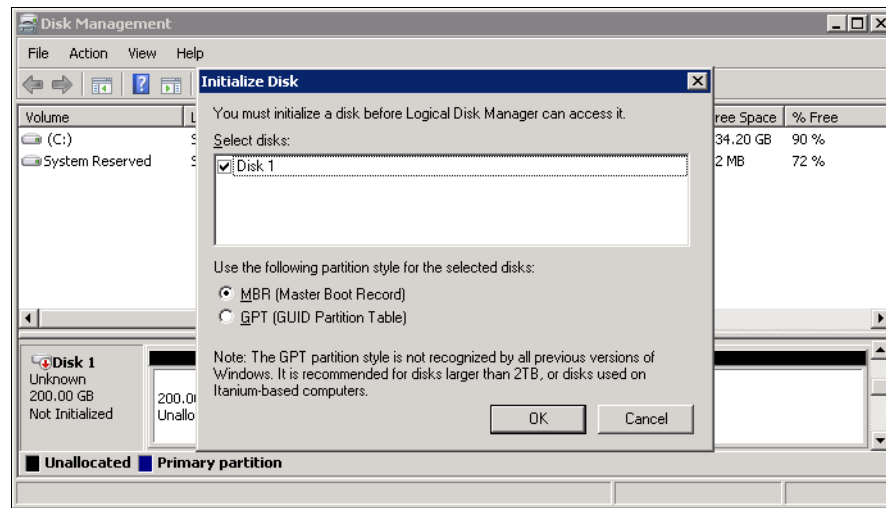

Figure 5-36 Initialize Disk
7. Select an initialization option and click **OK**. In our example, we selected MBR, as shown in Figure 5-36.